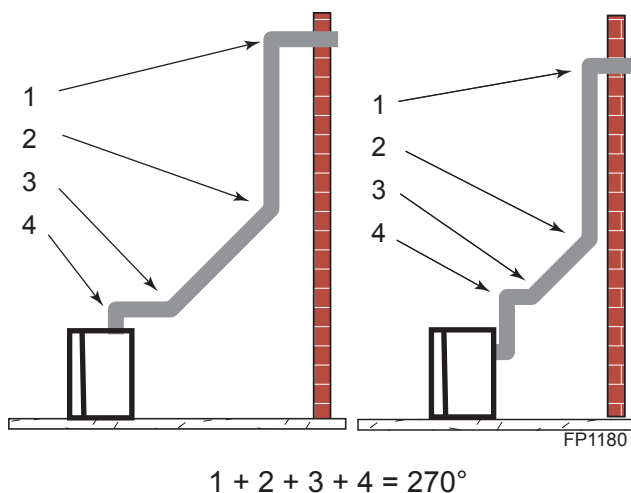

Figure 25 - Maximum Elbow Usage
- The maximum number of 45° elbows permitted per side wall installation is two (2). These elbows can be installed in either the vertical or horizontal run.
- The maximum number of elbow degrees in a system is 270°. *Figure 25*